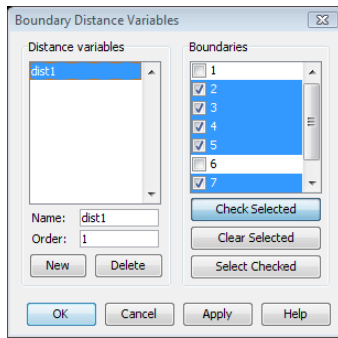

Figure 4-62: Specifying boundary distance variables.
- 5 In the **Boundary Distance Variables** dialog box, click the **Check Selected** button (see Figure 4-62 on page 281).